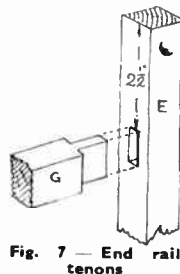

Fig. 7—End rail tenons
Take care to cut the ends of all the rails square and then set out the mortises in the upright rails (E) and (F) to take the ends of the rails (G) which have tenons cut on them, as seen in Fig. 7 detail. All mortises and tenons can be cut with the fretsaw cleanly after a careful setting out.